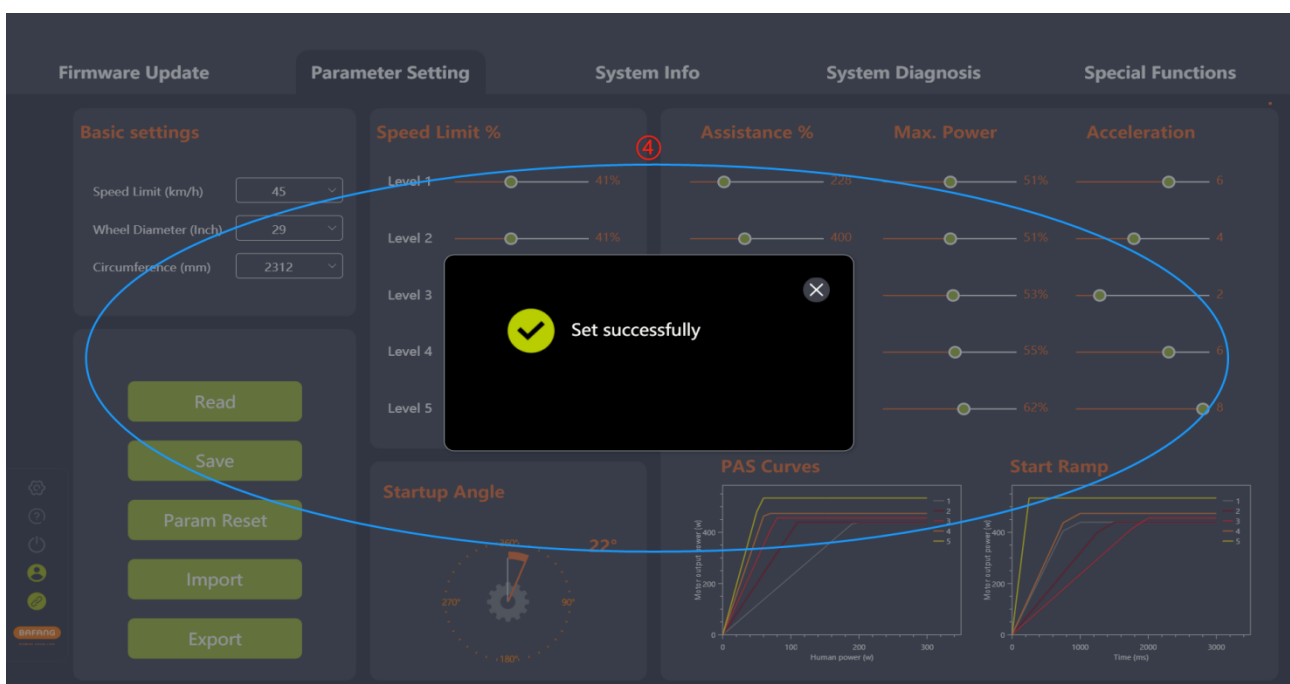

Fig. 5-14 Set parameter
- (3) Parameters can be set after login account verification is approved (Fig. 5-14).